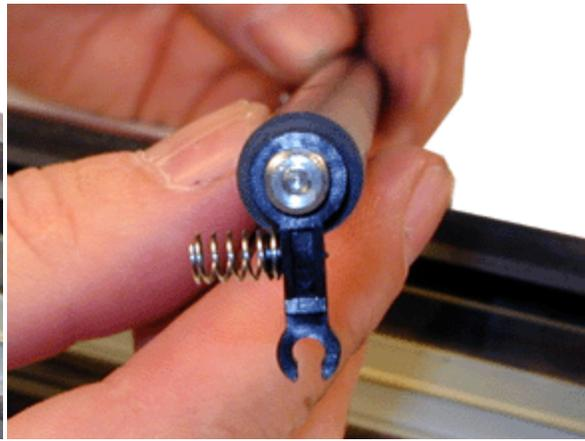

FIGURE 16
16. Place the PCR holders on the PCR. There are two different holders, make sure that the open holder faces the contact pin. See Figure 16.